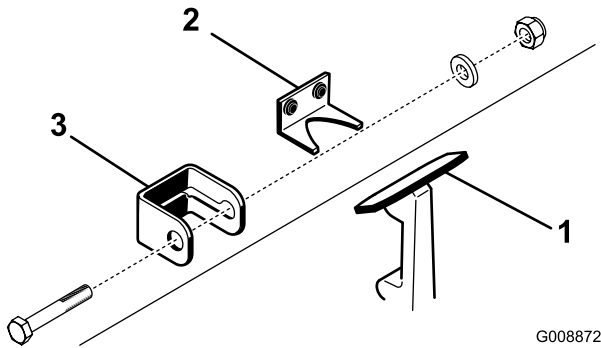

Figure 6
1. Unhook the hood latch from the hood latch bracket (Figure 6).
2. Slide the hood lock bracket onto the latch (Figure 6).
3. Hook the latch onto the hood latch bracket (Figure 6).
4. Insert a bolt (1/4 x 1-1/2 inches) through the hood lock bracket and secure it with a flat washer and locknut (Figure 6).